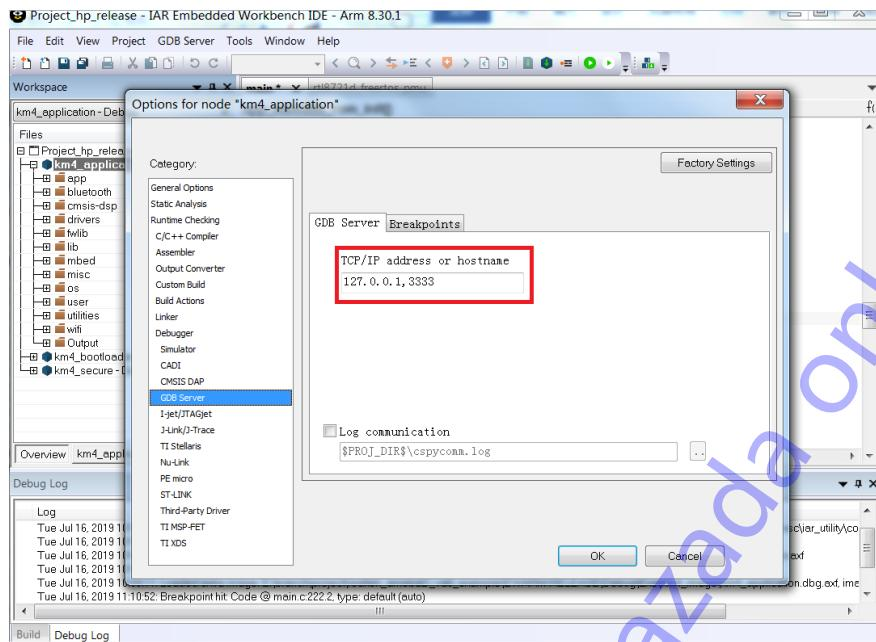

Fig 6-16 RLX Probe interface setup
- Click **GDB Server > GDB Server**, and put correct value in “TCP/IP address or hostname”, as Fig 6-16 shows. The value should be: *localhost, port number*.